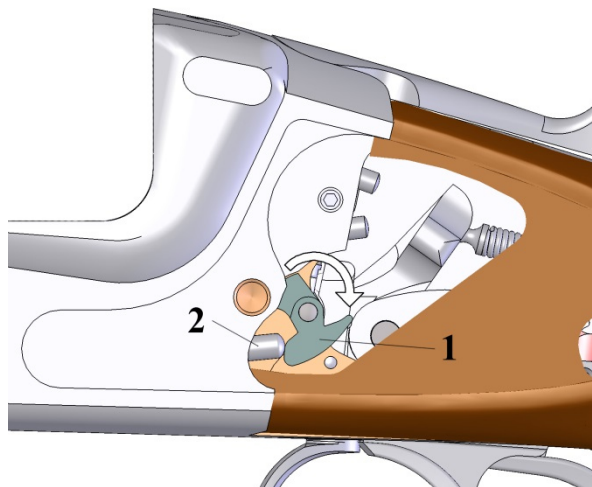

Abb. 29
When reinserting the locks make sure that the cocking pieces (1) lie closely against the cocking rods (2) and that they are pushed into the receiver as far as possible before you insert the locks. (Figure 29)